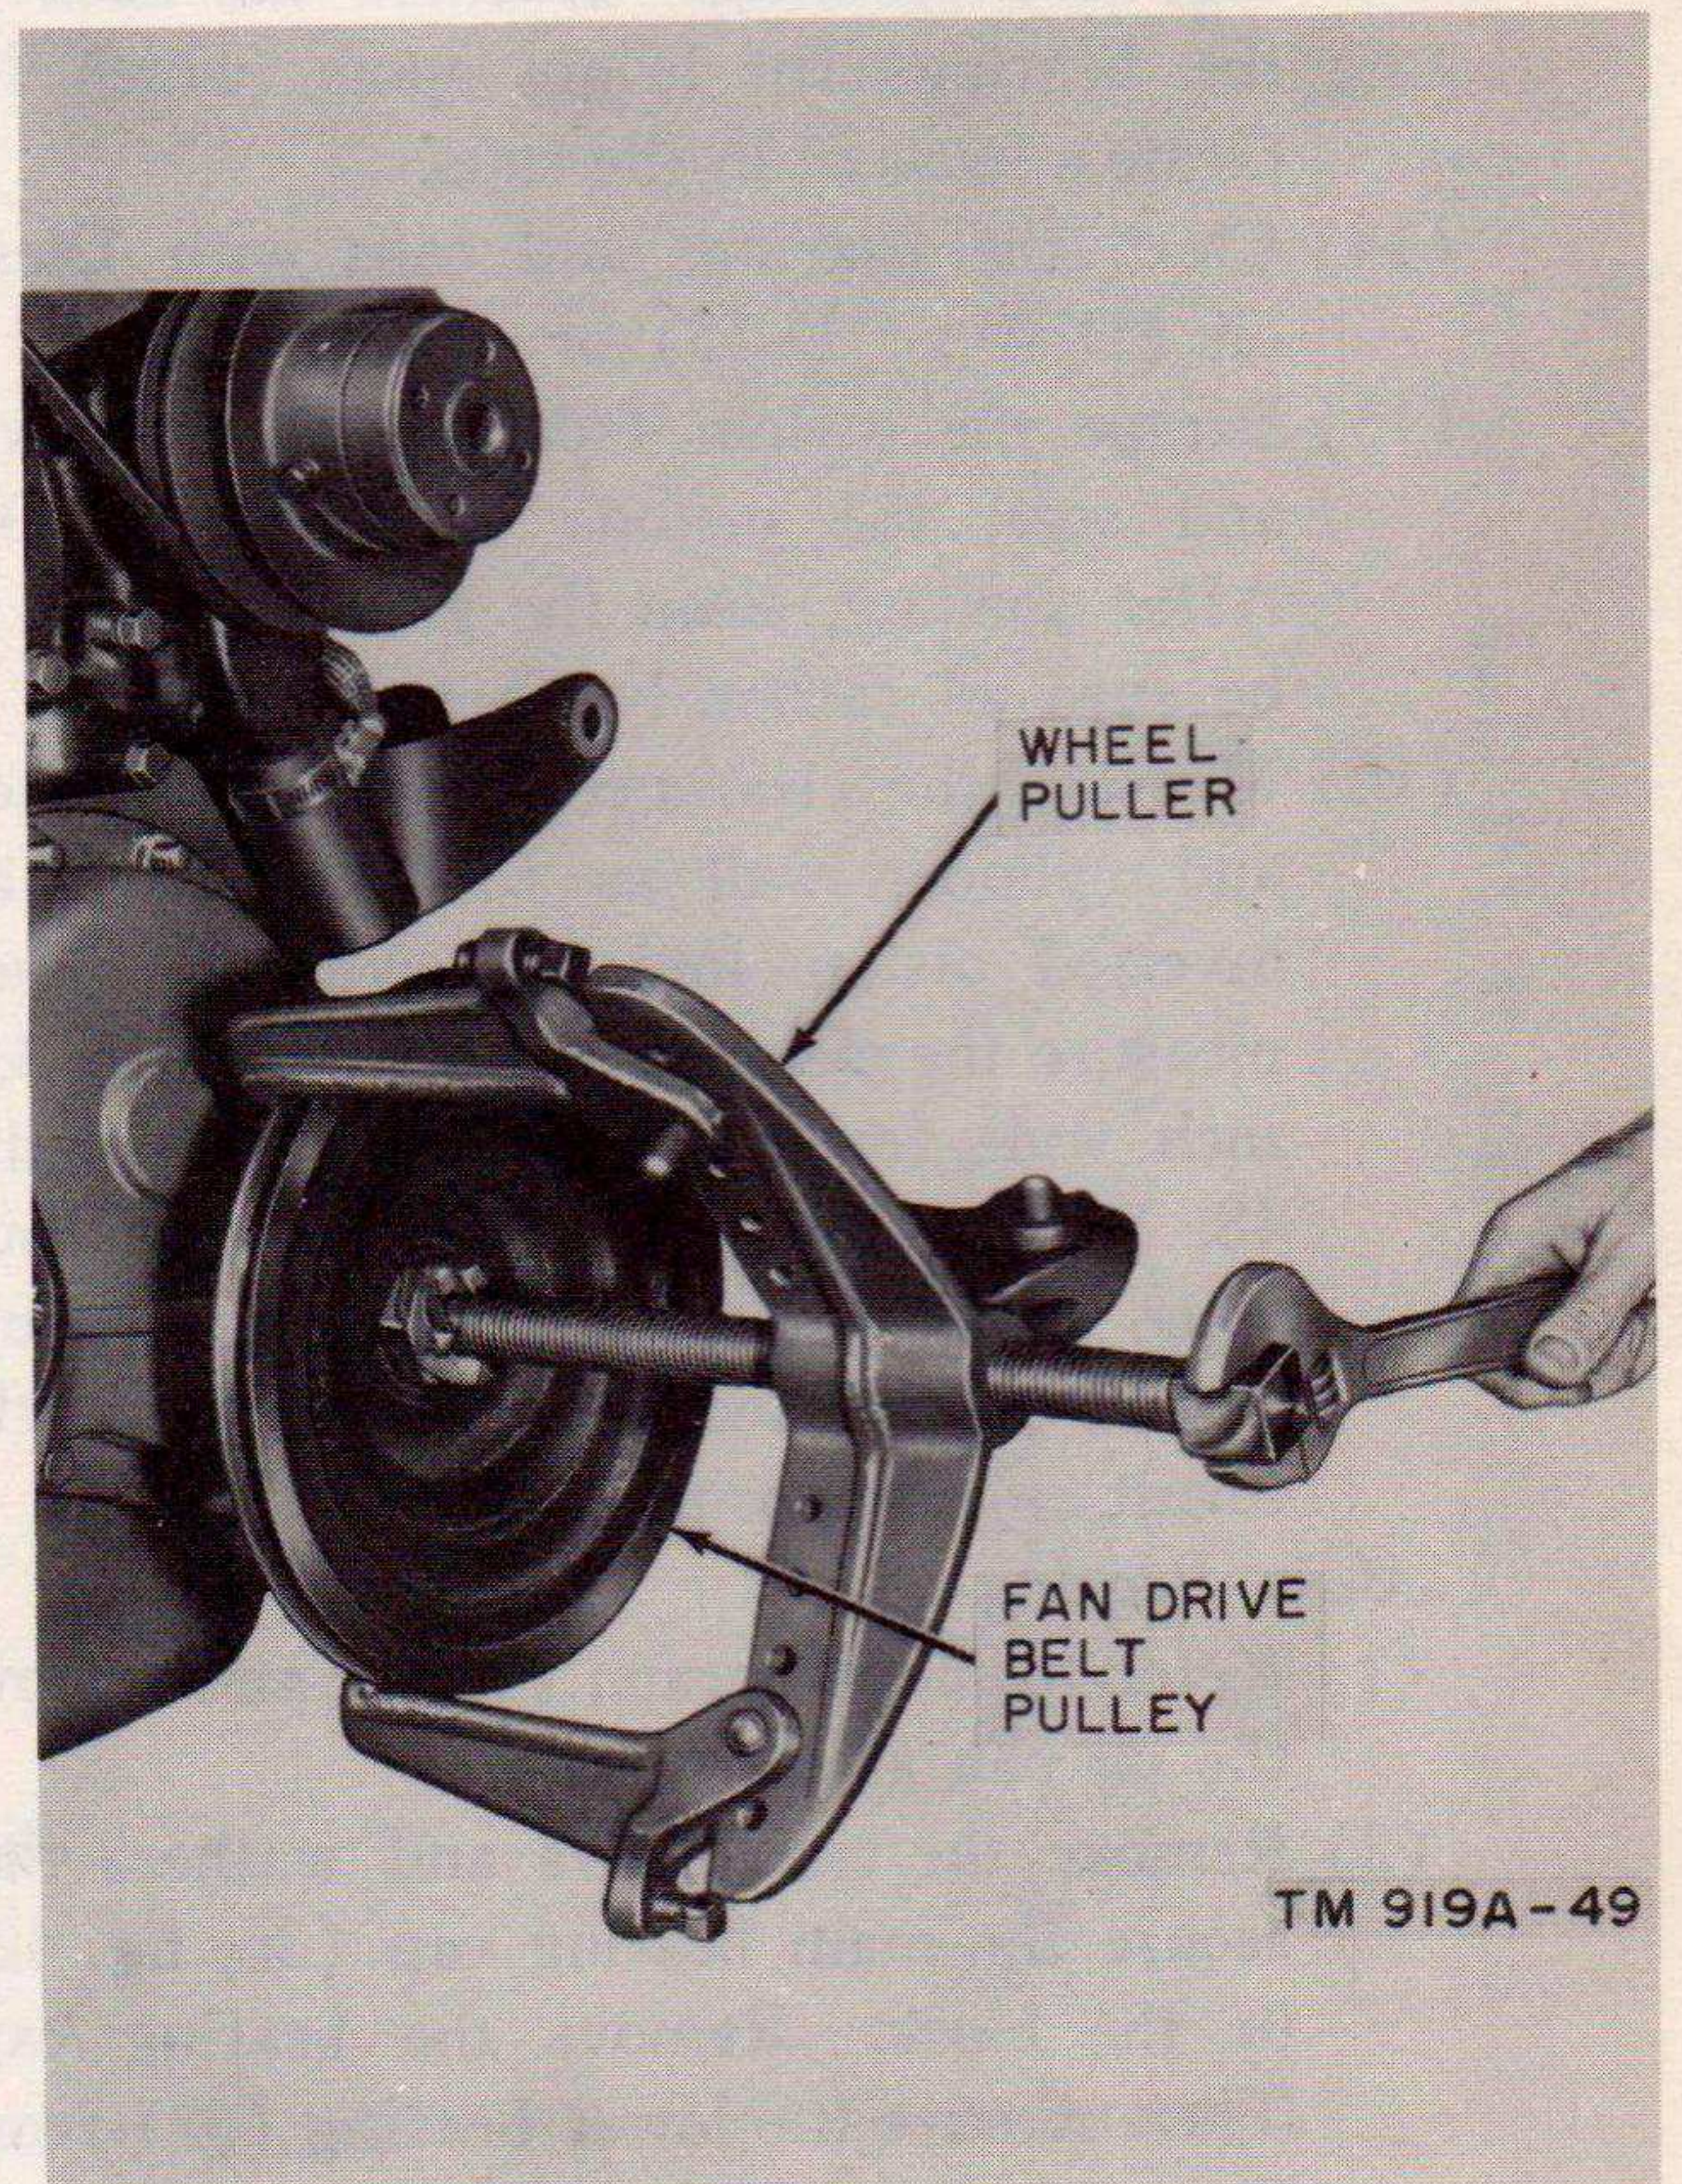

Figure 49. Removing crankshaft pulley.
*j. Flywheel Housing.* Because the flywheel housing (47) must be aligned perfectly when installed, do not remove it unless it is damaged enough to require replacement. If removal is necessary, remove the bolts and lock washers that secure the flywheel housing to the block and remove the housing.
- (1) Remove the starting jaw (48, fig. 42) from the crankshaft. Remove the crankshaft pulley (49) with a puller as shown in figure 49. Remove the key (50).
- (2) Remove the nuts, bolts, and lock washers that secure the gear cover (51) to engine. Remove the gasket (52). Then pull the oil seal (53) out of the gear cover.
- (3) Slip the oil thrower (54) off the crankshaft (59).
- (4) Remove the crankcase end plate (55) and gasket (56).
- (5) Wash all parts in Diesel oil (D-40 or D-35) or solvent (SD).
- (6) Examine the gear cover for cracks.
- (7) Examine the oil seal for evidence of leakage, nicks, and burrs.